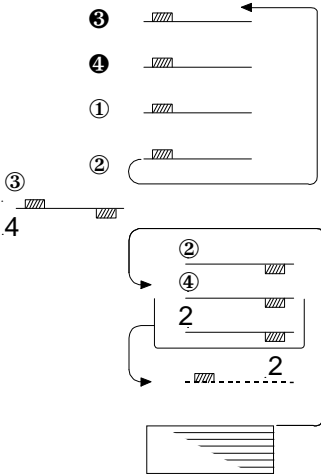

Fig 4
- 4) The 2nd original is scanned and then it is stacked in the duplex tray. Soon after this, the bottom copy in the duplex tray is fed in preparation for the reverse side copying [Fig 4].